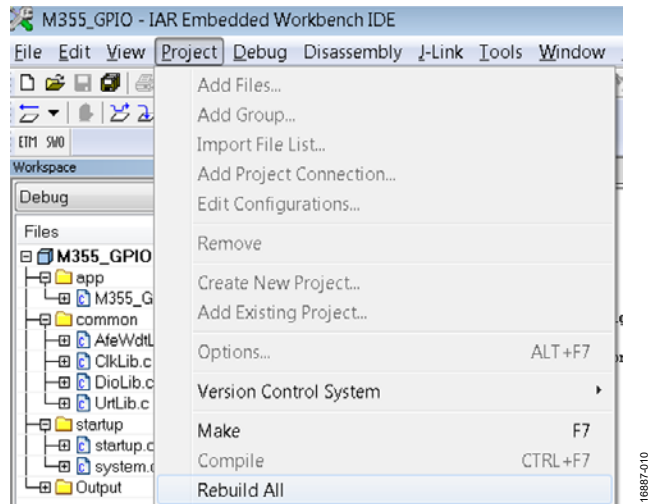

Figure 11. Project > Rebuild All
1. Go to **Project > Rebuild All** (see Figure 11).